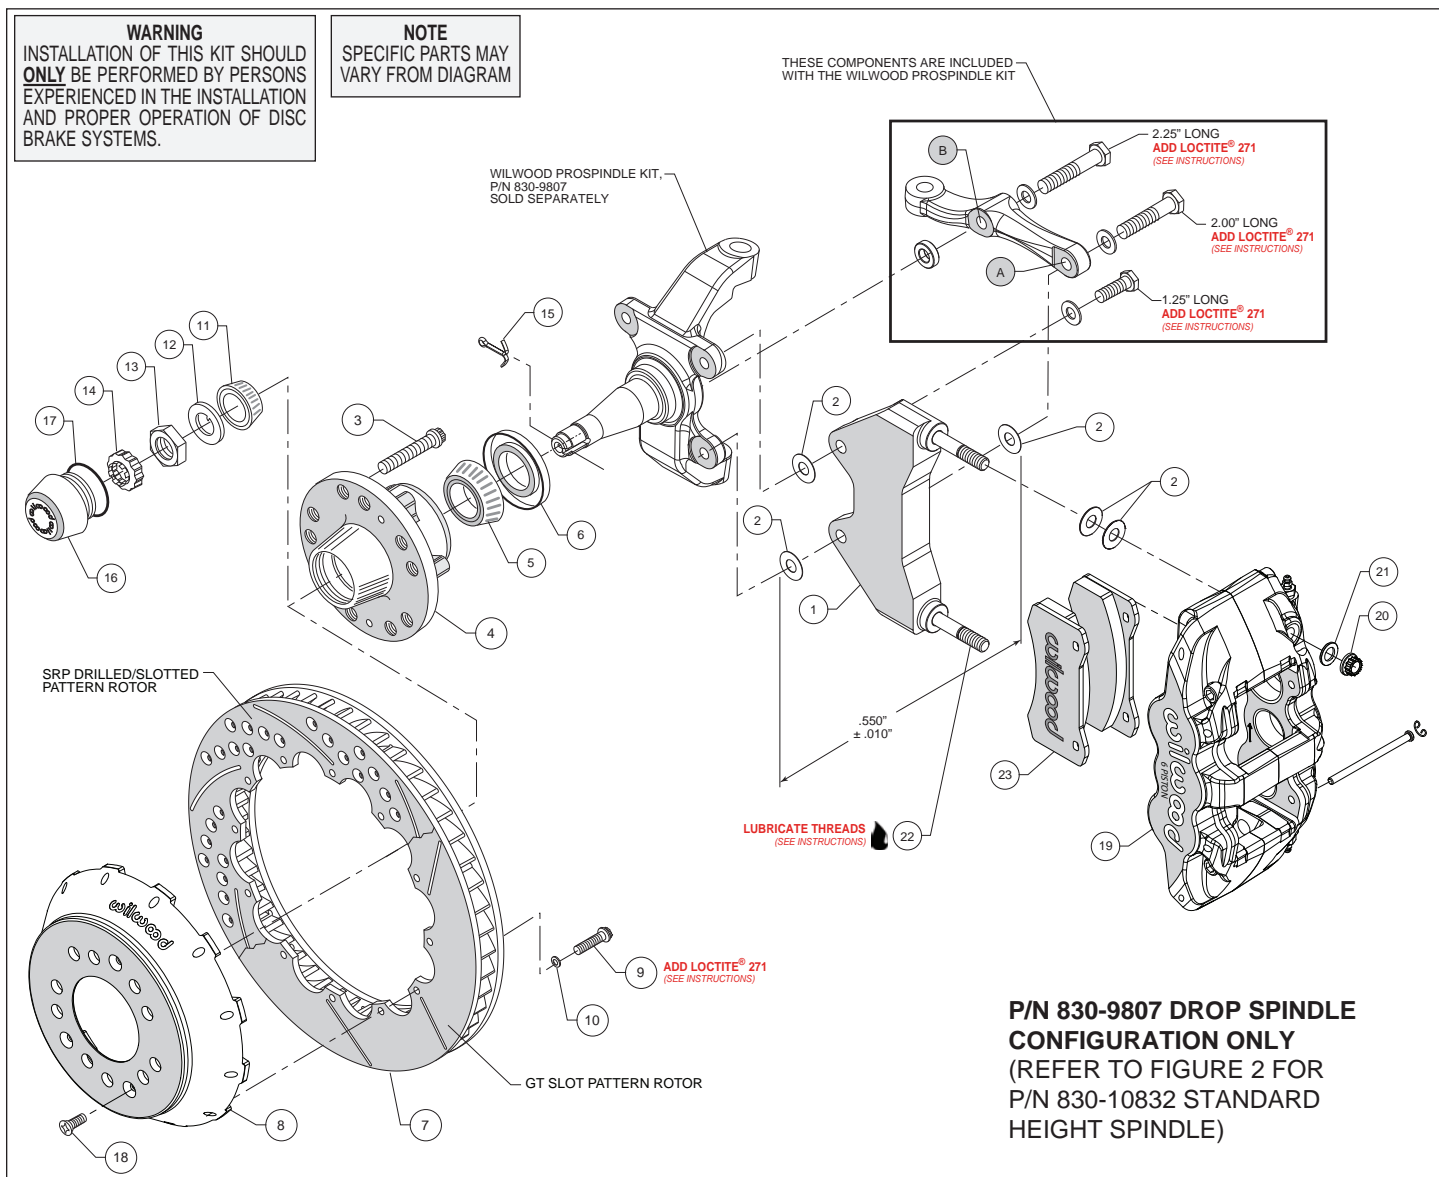
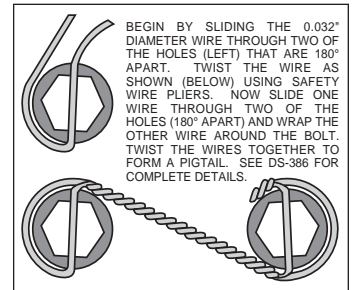

Figure 1. Installation Configuration For Drop Spindle, P/N 830-9807
Figure 4. Safety Wire Diagram
Assembly Instructions (numbers in parenthesis refer to the parts list and Figures 1 and 2 on the preceding pages):
- NOTE:** Each Wilwood ProSpindle kit includes bolts, washers, and a spacer to mount the steering arm and caliper bracket. The various bolts are identified by length in the following instructions and in Figures 1 and 2.
- Orient the bracket as shown in Figure 1 and Photo 1. Install at top spindle hole using 1.25" long bolt and .06" thick washer (from ProSpindle kit), and one .030" thick shim (2) between the bracket and spindle, Figure 1.
- Orient the steering arm, and identify the hole marked 'A', as shown in Figure 1. Install at bottom spindle hole using 2.00" long bolt, .06" thick washer (from ProSpindle kit), one .030" thick shim (2) between the steering arm and the bracket, and another .030" thick shim (2) between the bracket and spindle, Figure 1. The bracket is located between the steering arm and spindle. **NOTE:** The bracket and shim washers must add up to a total thickness of .550" \pm .010", Figure 1.
- Finish attaching the steering arm through the hole marked 'B', as shown in Figure 1. Install using 2.25" long bolt, .06" thick washer, and .25" thick spacer (all from ProSpindle kit), Figure 1.
- Install the grease seal (6) by pressing into the backside of the hub (4), flush with the end of the hub, Photo 4.
- Orient the rotor (7) and the hat (8) as shown in Figures 1 or 2, and Photo 5. Attach rotor to hat using bolts (9) and washers (10). Using an alternating sequence, apply red *Loctite*[®] 271 to the threads, and torque to 155 **in-lbs**. For an added measure of security, the bolts may be safety wired using standard 0.032 inch diameter stainless steel safety wire as shown in Figure 4. Refer to Wilwood's data sheet DS-386 (available at www.wilwood.com/Pdf/DataSheets/ds386.pdf) for complete safety wire installation instructions.
- Slide the hat/rotor assembly (7/8) onto the hub (4) taking care to align the small countersunk holes in the hat with the small threaded holes in the hub. **NOTE:** The hat must fit flush against the hub face or excessive rotor run out may result. Install three flat head screws (18) through the small holes in the hat (8), Photo 7, and torque to 85 **in-lb**.
- NOTE:** This kit contains distinct right and left hand calipers that must be mounted in a specific direction, as described below. Lubricate the caliper mounting studs (22) with lightweight oil. Initially place two .030" thick shims (2) on each stud as shown in Figure 1 or 2, and Photo 8. Mount the caliper (19) onto the bracket (1) using lock nuts (20) and washers (21), Figure 1 or 2. Ensure that the caliper is mounted so the largest pistons are at the rotor exit end of the caliper, in relation to the direction of rotor rotation. Temporarily tighten the lock nuts. View the rotor through the top opening of the caliper. The rotor should be centered in the caliper, Photo 9. If not, proceed as follows:
- Adjust by adding or subtracting shims (2) between the bracket and the spindle. Always use the same amount of shims on each of the two bolts between bracket and spindle.
- For the lower bracket mount bolt, if a shim was added between the bracket and spindle, then a shim must be removed between the steering arm and bracket, such that the total thickness of bracket and shims remain equal to .550 ± .010", Figure 1.
- Adjust by adding or subtracting shims (2) between the bracket and the spindle. Always use the same amount of shims on each of the two mounting bolts.
- Remove the two pad retaining pins from the caliper (19) by carefully popping out the pin retaining clips and sliding out the pins. Insert the brake pads (23) into the caliper from the bottom, Figure 1 or 2, and Photo 10. With the friction material facing the rotor, secure the brake pads in place with the pad retaining pins and clips, Photo 11. Reinstall the caliper onto the caliper mounting bracket and temporarily tighten the lock nuts. Check that the top of the brake pad is flush with the outside diameter of the rotor, Photo 12. If not, adjust by adding or subtracting shims (2) between the caliper and the bracket. After the caliper pad height is set, torque the caliper lock nuts (20) to 47 ft-lb.